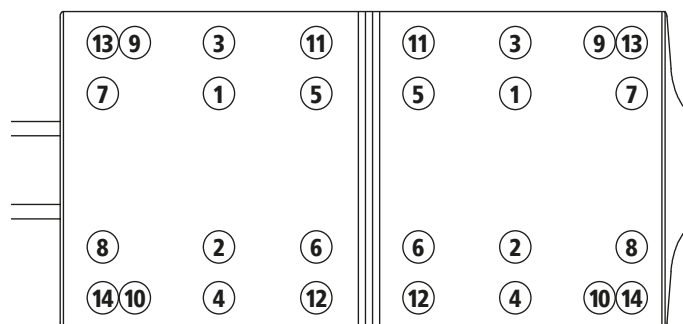

Figure 59: Clinch Rivets Criss-Cross from Centre Outwards
5. Clinch rivets using riveter following the order shown in the figure. Refer Figure 59.